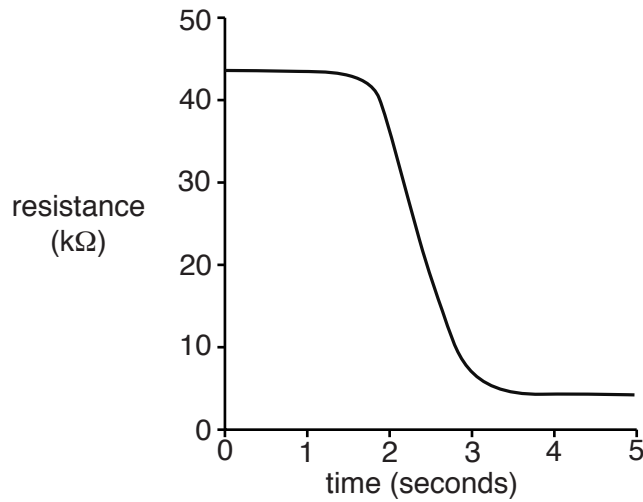

Fig. 2
- (b) Fig. 2 shows a resistance graph for sensor **A**.